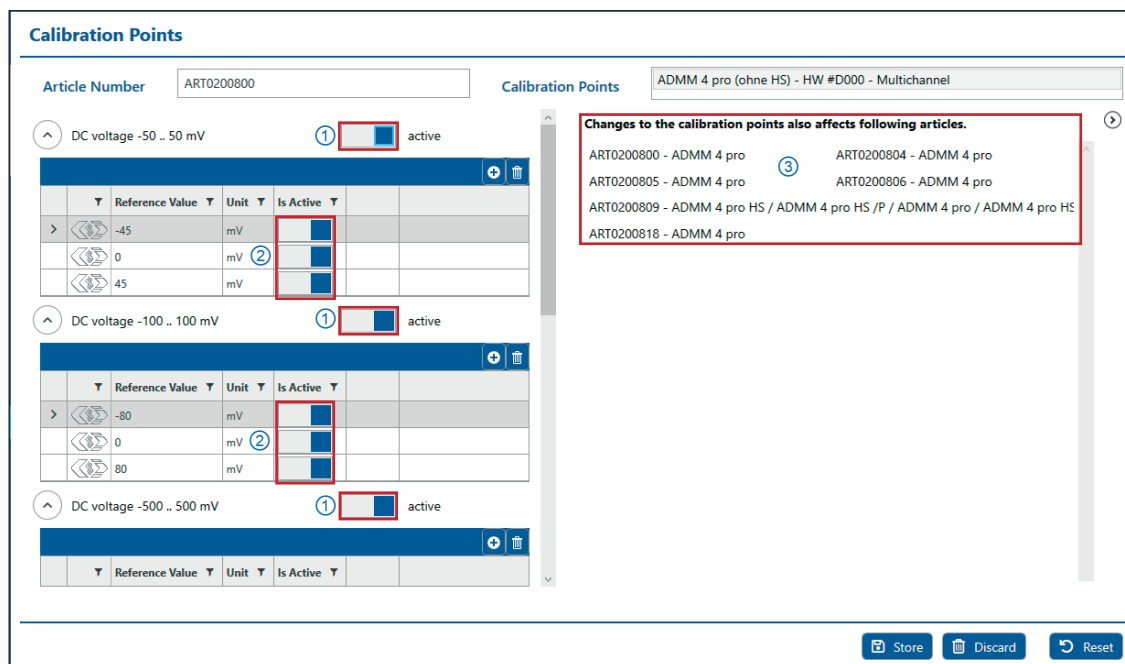

Fig. 3-22: **Calibration Points** menu
- ⇒ The calibration table with the standard calibration points is displayed below this. The "active/inactive" buttons can be used to activate or deactivate entire measurement ranges (Fig. 3-22, ①) or individual calibration points (Fig. 3-22, ②).
- ⇒ If other measurement modules are affected by changes in the calibration point table, a list opens to the right of the calibration point table (Fig. 3-22, ③), in which the relevant measurement modules will be displayed.